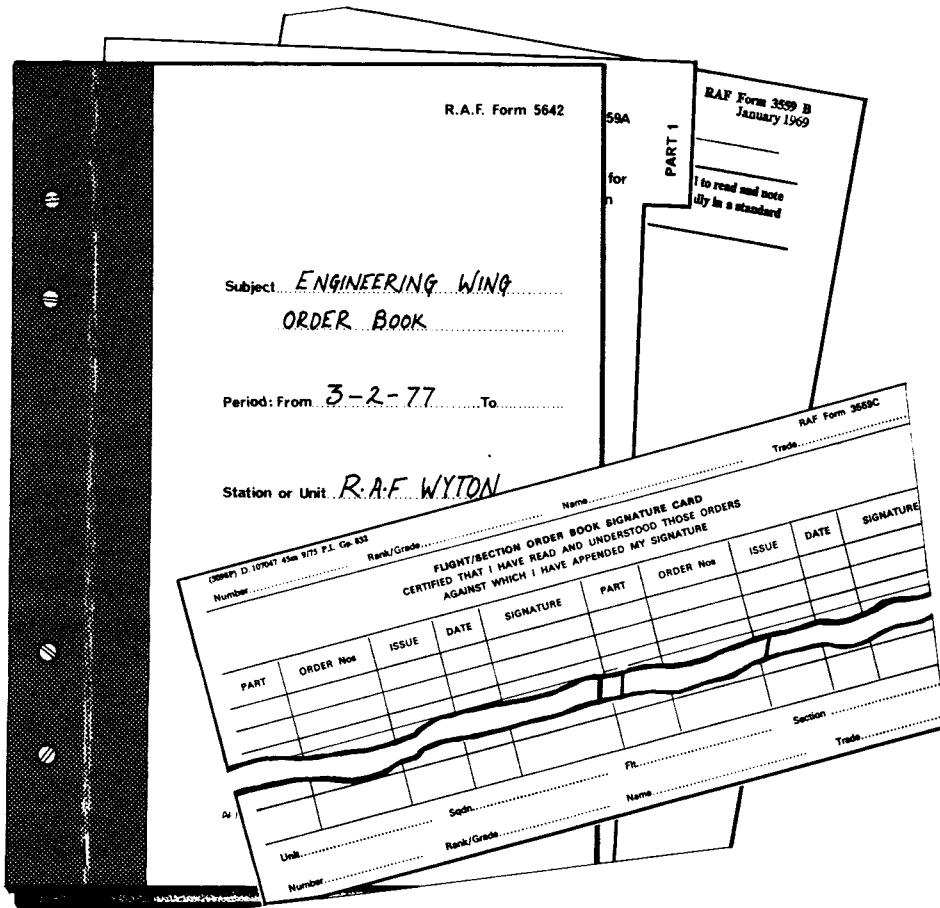

Fig 24.9 Engineering order book
35. This book, an example of which is illustrated in Fig 24.9, is normally maintained by all self-contained flights and sections on a unit. It contains local orders pertaining to the section and details the responsibilities of all section personnel. Physically, the book consists of a loose-leaf cover, a set of spacer cards, and order sheets. The book is amended from time to time and orders are cancelled when they have no further use.